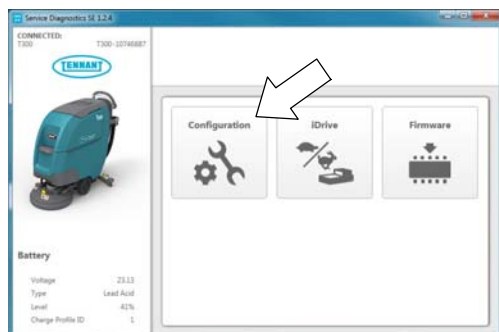

Fig. 11
11. Check for loose wire connectors at new control board. Reconnect the application software to machine and check the machine configuration selections for incorrect installed options. When the software is reconnected to machine, the Home page will now appear (Figure 11). Select the Configuration button.